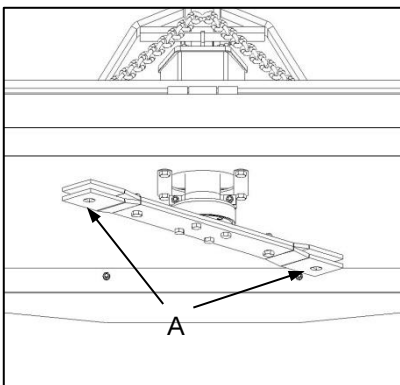

Fig. 7
- ✓ Check blade mounting holes (Fig. 7-A / 8-A) for signs of wear, elongation or fractures. In the event of any observed defect do NOT attempt a repair, but provide immediate replacement of the defective disc.
- ✓ Gaan lemmonteringsgate (Fig. 7-A / 8-A) na vir tekens van slytasie, vergroting of breuke. In die geval van enige waargenome defek, moet NIE probeer om dit herstel nie, maar vervang die defekte skyf onmiddellik.